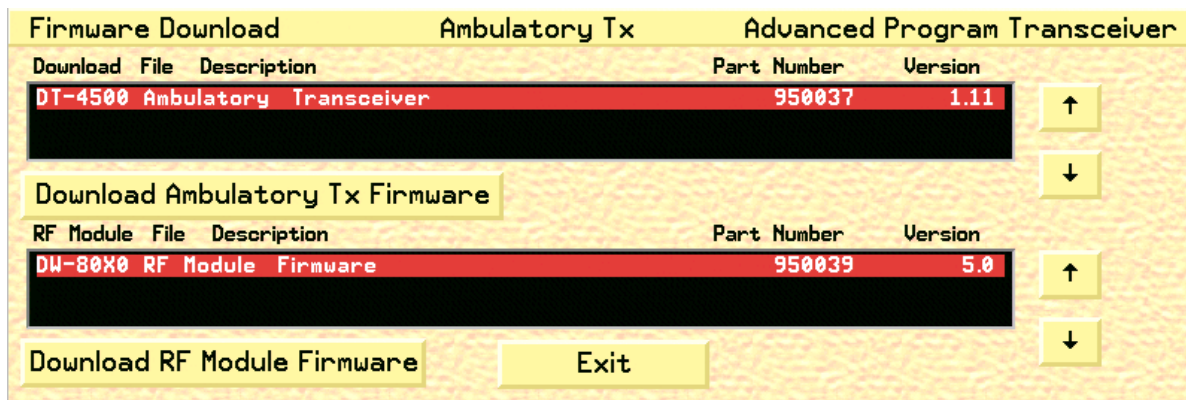

Fig. 79. Firmware Download Advanced Program Transceiver Screen, AT
14. Click the **F/W Download** button to display the Advanced Program Transceiver Firmware Download screen (see fig. 79 on page 126).
3. Click the **F/W Download** button to display the Advanced Program Transceiver Firmware Download screen (fig. 79).